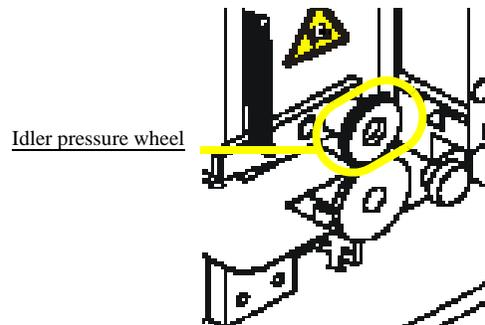

Figure 6-104—Idler pressure wheel
- 4a) Visually inspect the drive sprocket top idler pressure wheel and rubber O-rings for any build up of adhesive from the cover tape. See *Figure 6-104*.